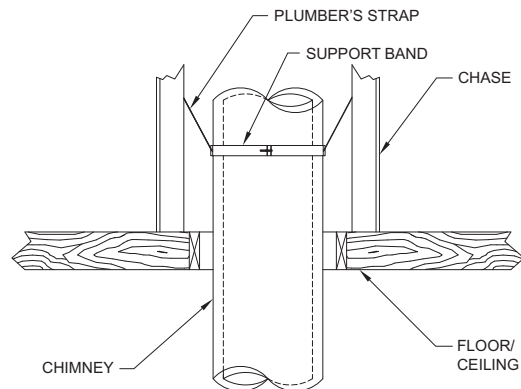

FIG. 7
Nail the brackets to the framing using a minimum of (2) nails or screws per bracket. A Support Band may be required by some fireplace manufacturers to keep the chimney vertical and help maintain clearances to combustibles within a chase. Clamp the Support Band to the pipe using the nut and bolt provided and secure legs to nearby framing using plumbers strap or guy wires. See FIG 7. The Support Band does not support the weight of the chimney, it is only used to keep the chimney centered within a chase.